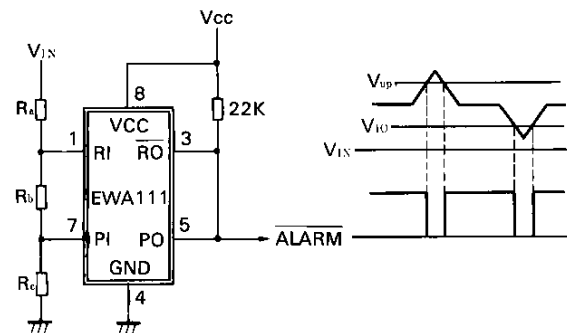

Fig. 9 Upper and lower limit voltage detection circuit
The EWA111 can be used to create a circuit which issues an alarm if the supply voltage reaches its upper or lower limit. This IC has two open collector output circuits with opposite polarities. Therefore, an upper and lower limit voltage detection circuit can be created only by connecting the two output terminals ( $\overline{RO}$  and PO) as shown in Fig.9. The PI terminal is used for upper limit detection and the RI terminal for lower limit detection. The detection voltages  $V_{up}$  and  $V_{lo}$  can be calculated using formulas (9) and (10).